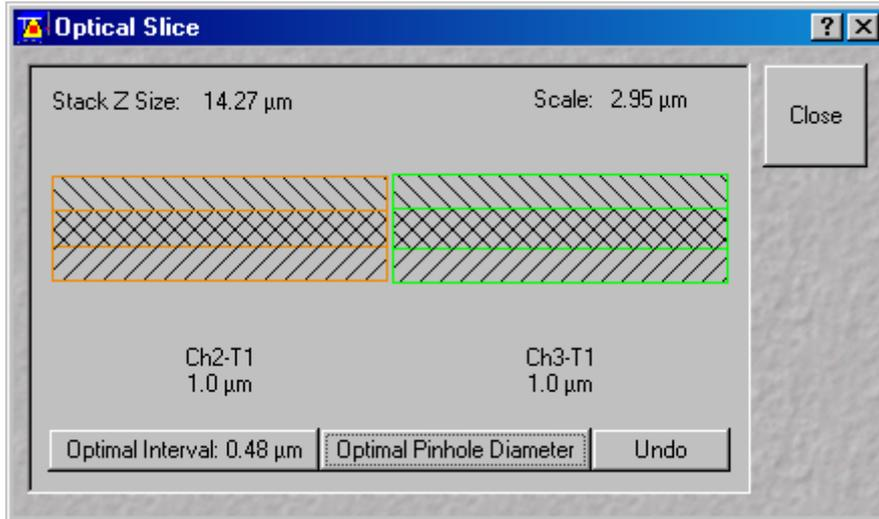

Fig. 4-77 Optical Slice window
**Z Slice:** Opens the **Optical Slice** window (Fig. 4-77). The **Optical Slice** window contains three buttons (**Optimal Interval: ...  $\mu\text{m}$** , **Optimal Pinhole Diameter** and **Undo**) to allow the setting of the optimal interval and the optimal pinhole diameter of fluorescence stacks. Both values influence each other and depend on the objective used.